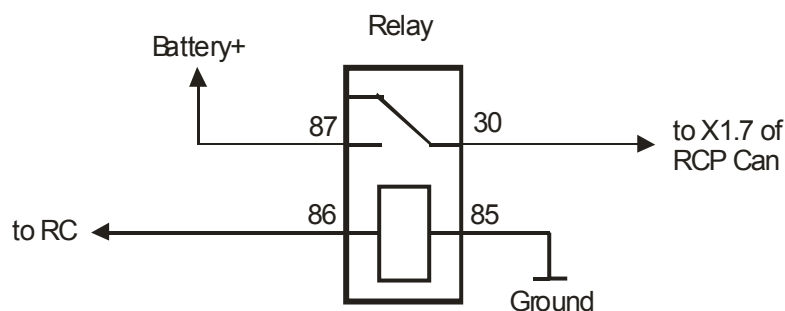

Figure 7
- The input RC_in is intended for the connection of specialized remote controls such as DEFA Smart Start, Hydronic Easy Start, Webasto Telearstart. If direct connection of remote control's output line to the input RC_in is not functional, the scheme at the fig.7 can be applied.